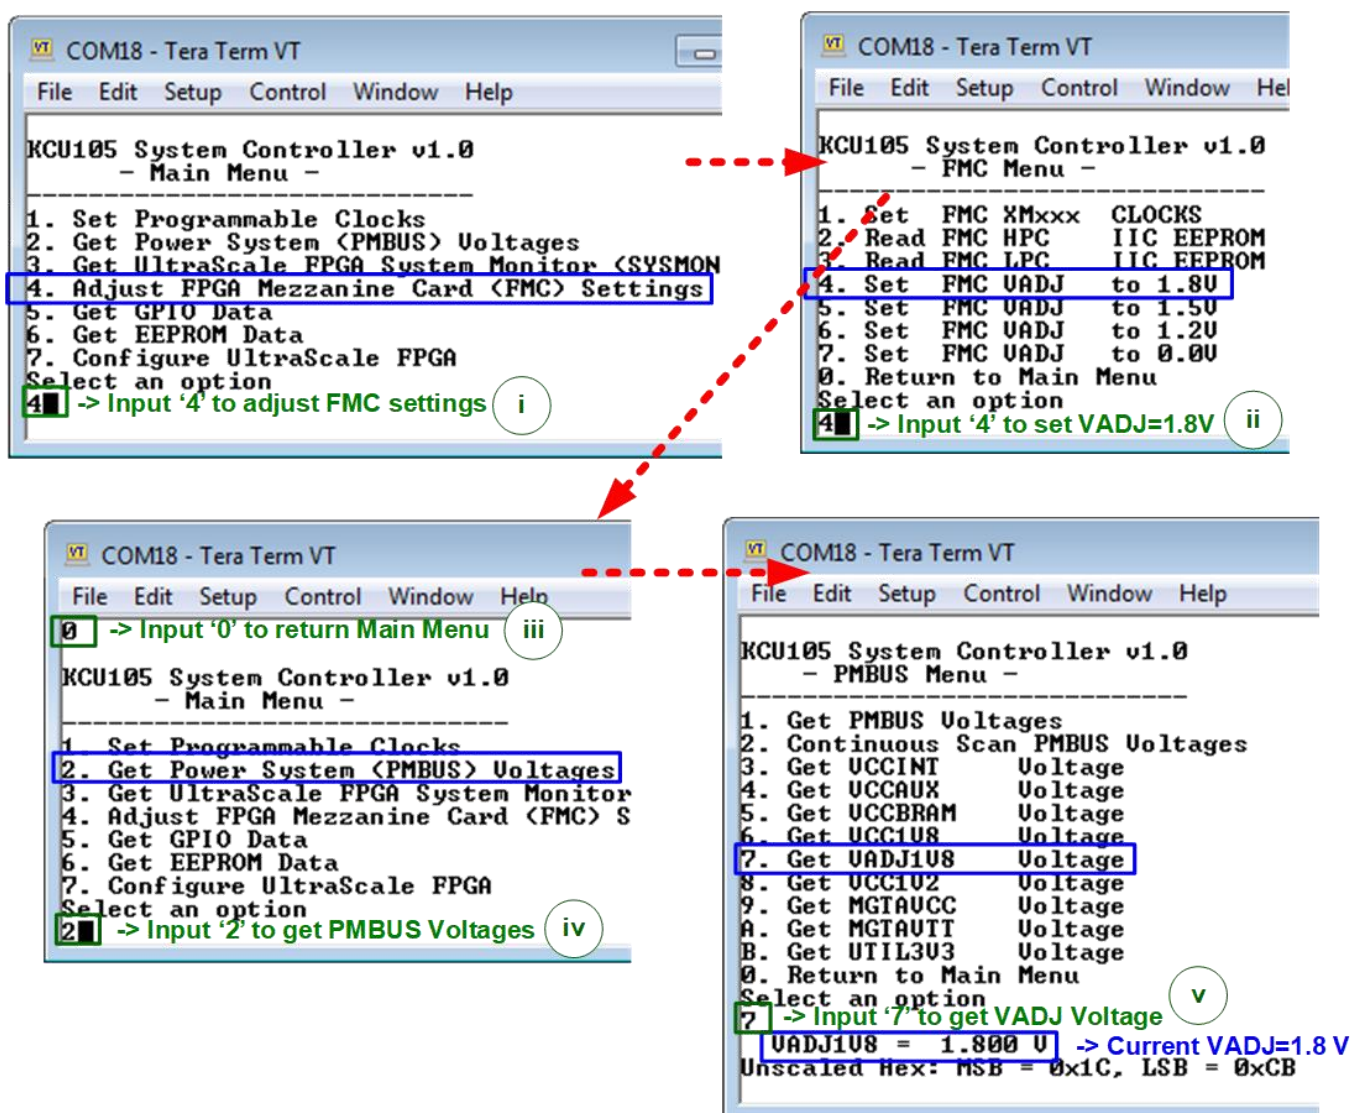

Figure 2-8 Setting VADJ on FMC for KCU105
6) For KCU105 board by AB17, open Serial console to connect with Enhanced COM port (Buad rate=115,200 Data=8 bit Non-Parity Stop=1). The console shows System Controller menu, as shown in Figure 2-8. To set VADJ of FMC to 1.8V, the following step is recommended.